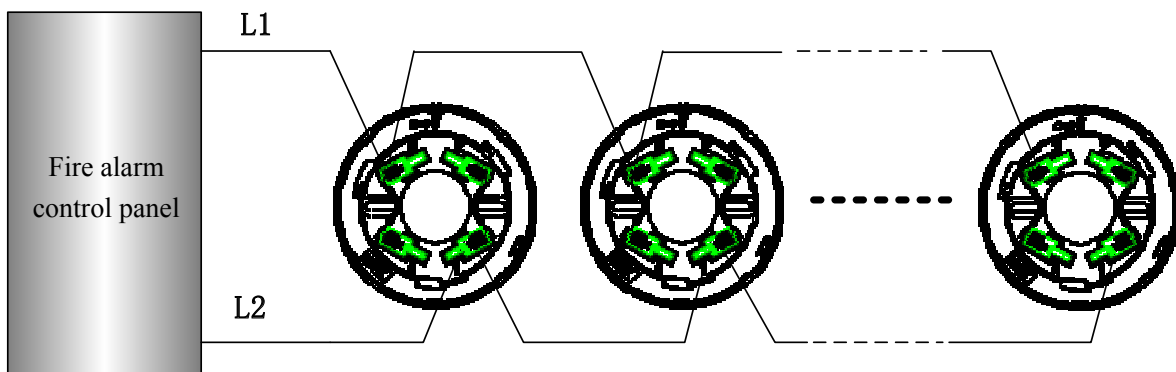

Fig 3
- 2) Wiring method: The detector is accessed through a compatible fire alarm control panel via a two-wire bus. It uses non-polarity connection. The terminals L1 and L2 of the two-wire bus are connected with the terminals 1 and 3 of the matched mounting base. Fig.3 is a schematic diagram of the connection between multiple detectors with a fire alarm control panel.